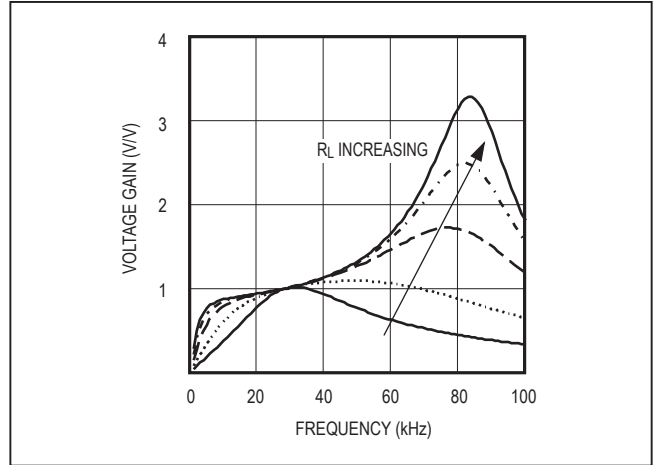

Figure 8. Frequency Response of the Resonant Tank
Figure 8 shows the frequency response of the resonant tank's voltage gain under different load conditions. The primary series capacitor is 1µF, the secondary parallel capacitor is 15pF, the transformer turns ratio is 1:78, and the secondary leakage inductance is 260mH. Notice that there are two peaks,  $f_S$  and  $f_P$ , in the frequency response. The first peak,  $f_S$ , is the series resonant peak determined by the secondary leakage inductance (L) and the series capacitor reflected to the secondary ( $C'S$ ):